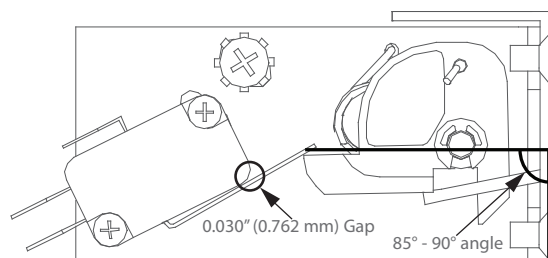

Figure 29: Primary Switch Adjustment
Use the following procedure to adjust the primary, secondary, and monitor switches. The secondary switch is located on the left side hinge assembly and the monitor switch is located on the right side hinge assembly. The primary switch is located on the upper-left corner of the oven and utilizes an actuator (attached to the door) and toggle assembly (attached to the chassis) to engage (Figure 29). See page A-8 of the Appendix for switch assembly detail.
- a. Visually inspect the latch toggle position and verify it is angled at no less than 85° and no more than 90° in reference to the front flange (oven face). See Figure 29.